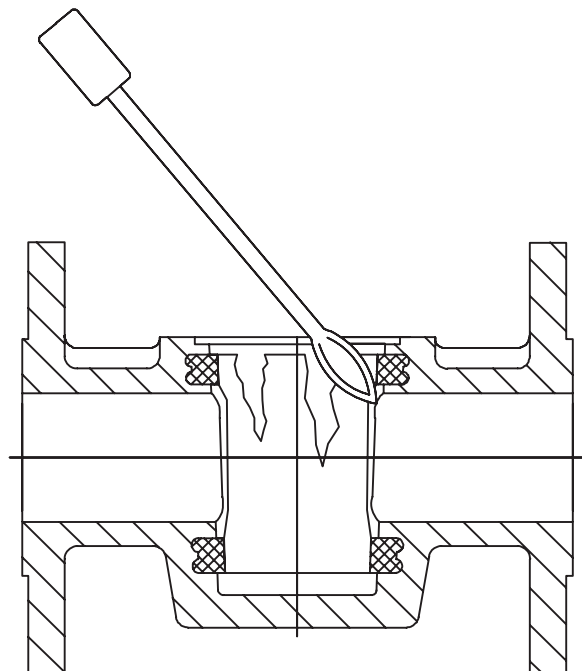

Fig. 2
3. Cut Out Old Sleeve (fig. 2)